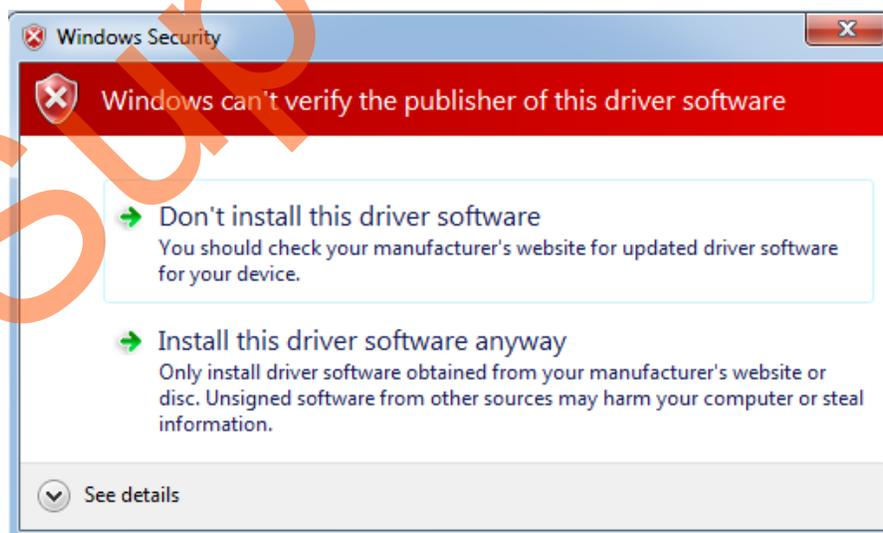

Figure 56 • Windows Security
4. Click **Install this driver software anyway** if the window appears as shown in Figure 56.